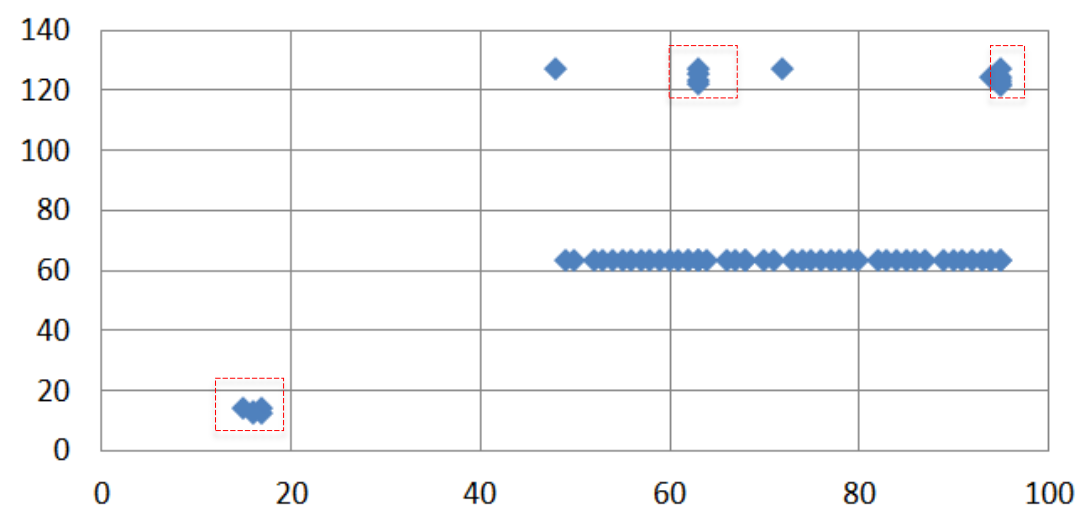

Fig 4 Turn on more pixels from COL95/63
- Fig4 shows the COL95&COL63 is working fine.